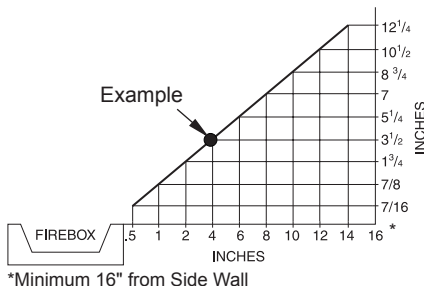

Figure 4 - Minimum Clearance for Combustible to Wall
- where curtains, furniture, clothing or other flammable objects are less than 36" from the front and 42" from top heater. For side clearances see Figure 4 page 10
- A. Clearances from the side of the fireplace cabinet to any combustible material and wall should follow diagram in Figure 4.
Example: The face of a mantel, bookshelf, etc. is made of combustible material and protrudes 3 1/2" from the wall. This combustible material must be 4" from the side of the fireplace cabinet (see Figure 4).